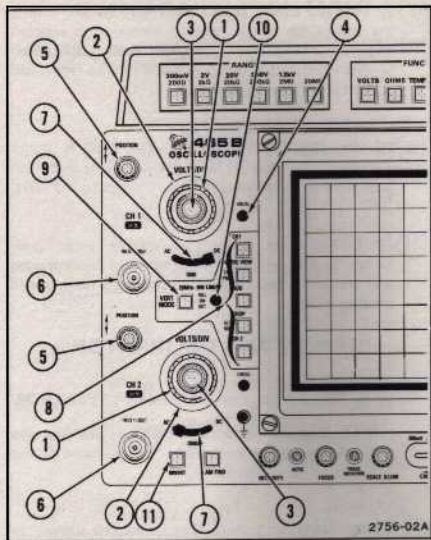

Figure 2. Vertical controls, connectors, and indicators.
Refer to Figure 2 for location of items 1 through 11.
- ① **VOLTS/DIV Switches**—Select the vertical deflection factor for Channel 1 and Channel 2 in a 1-2-5 sequence. VAR control must be in the calibrated detent to obtain a calibrated deflection factor.
- ② **VOLTS/DIV Readouts**—Consist of two light emitting diodes (LED) for each channel, located beneath the skirt of each VOLTS/DIV knob. One LED or the other will light to indicate the correct deflection factor. The 10X LED is illuminated only when a 10X probe with a scale-switching coding-ring contact is connected to the input of the oscilloscope; otherwise, the 1X LED is illuminated.
- ③ **VAR**—Provides continuously variable uncalibrated deflection factors between the calibrated settings of the VOLTS/DIV switches.
- ④ **UNCAL Indicator**—A LED that lights when the VAR VOLTS/DIV control is out of the calibrated detent, and the vertical deflection factor is uncalibrated.
- ⑤ **POSITION Controls**—Determine the vertical position of the display on the crt. In the X-Y mode, the Channel 2 POSITION control moves the display vertically (Y-axis), and the Horizontal POSITION control moves the display horizontally (X-axis).
- ⑥ **CH 1 OR X and CH 2 OR Y bnc Connectors**—Provide for application of external signals to the inputs of the vertical amplifier. In the X-Y mode, the signal connected to the CH1 OR X connector provides horizontal deflection, and the signal connected to the CH 2 OR Y connector provides vertical deflection. These connectors each include a coding ring that activates the scale-factor-switching circuit whenever a 10X scale-factor-switching probe is connected.
- ⑦ **AC-GND-DC Switch**—Selects the method used to couple a signal to the input of the vertical amplifier.